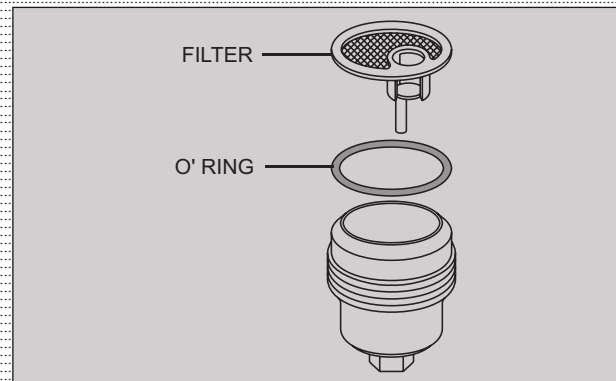

Fig. 2.32
- Remove 'O' ring and filter. (Fig. 2.32)